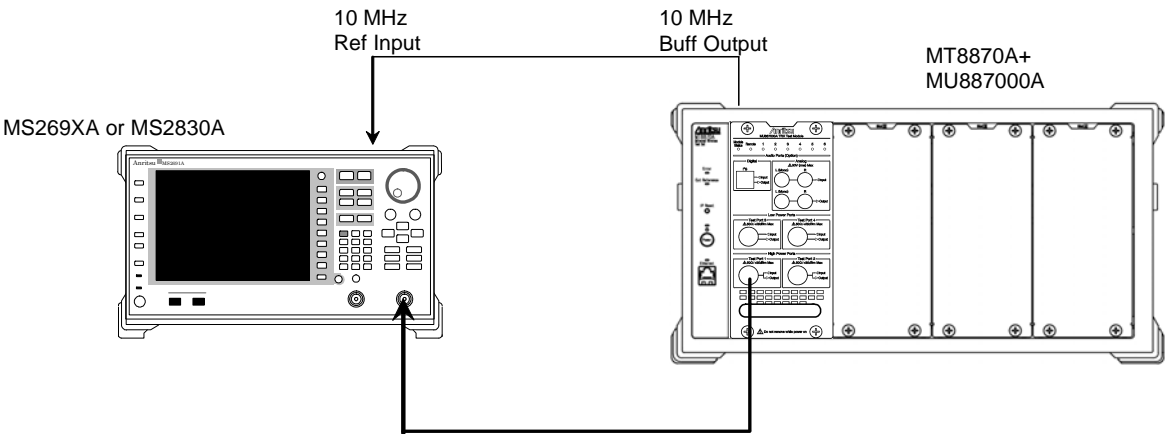

Figure 6.3.4-1 Output EVM Measurement Setup
1. Setup the instruments as shown in Figure 6.3.4-1.
2. Select the signal analyzer (SA) measurement software and set the following: